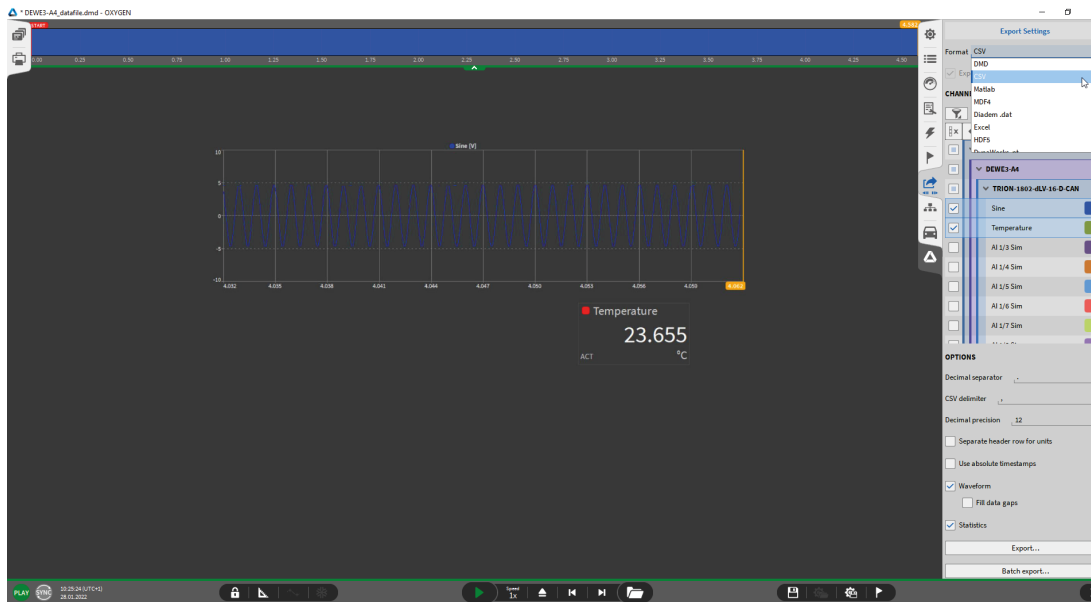

Fig. 13: Exporting data file for post-processing
The green border and PLAY indicator in the lower left corner indicate that a file is loaded for post-processing (see Fig. 13).
4. Click on the export button seen in Fig. 13.